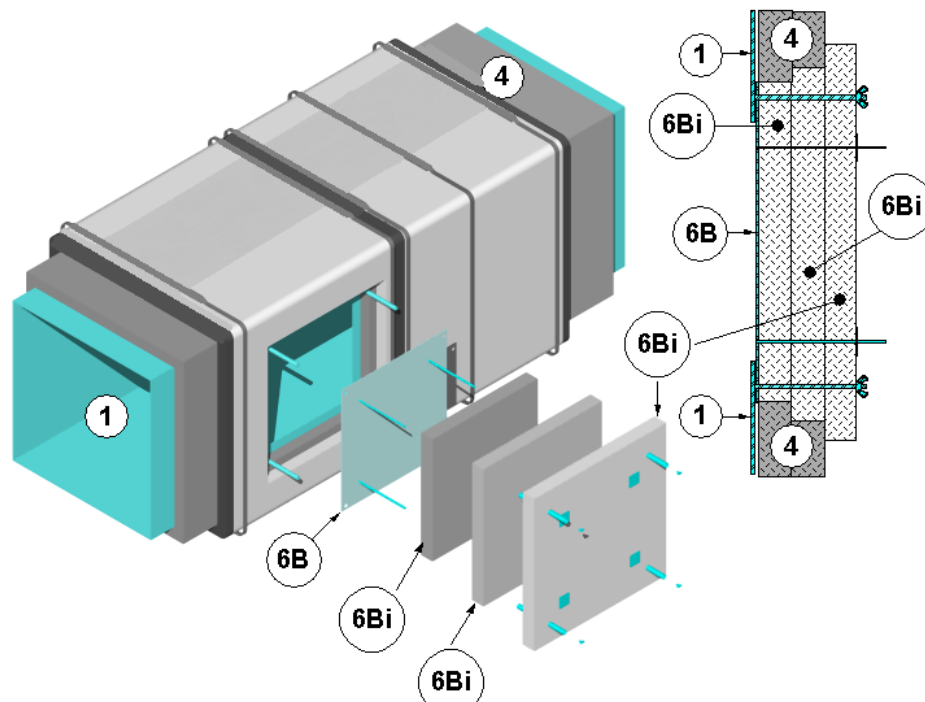

Figure 3 – Field Fabricated Access Door
- B. OPTIONAL FIELD-FABRICATED ACCESS DOORS – Refer to Figure 3. Mark a clean-out access opening location on the insulated grease duct (Item 1) at its mid-height along the horizontal section. Cut a 26 in. × 20 in. opening in the duct insulation (Item 4). Remove and discard the cut duct insulation (Item 4). Cut and center a 24 in. × 18 in. opening into the side of the grease duct (Item 1) by maintaining a 1 in. clearance between the perimeter of the opening and the cut duct insulation (Item 4). Remove and discard the cut steel. Weld four min. 4 in. long, 1/4 in. diameter, all-thread steel rods to the grease duct (Item 1). Locate one steel rod at each corner of the grease duct (Item 1) opening so that they are 11 in. oc and squared within the duct insulation (Item 4) opening.
ACCESS INSULATION – Refer to Figure 3. Apply three layers of access insulation over the field-fabricated access door (Item 6B) as follows. Cut the first piece of access insulation a min. 1 in. larger than the